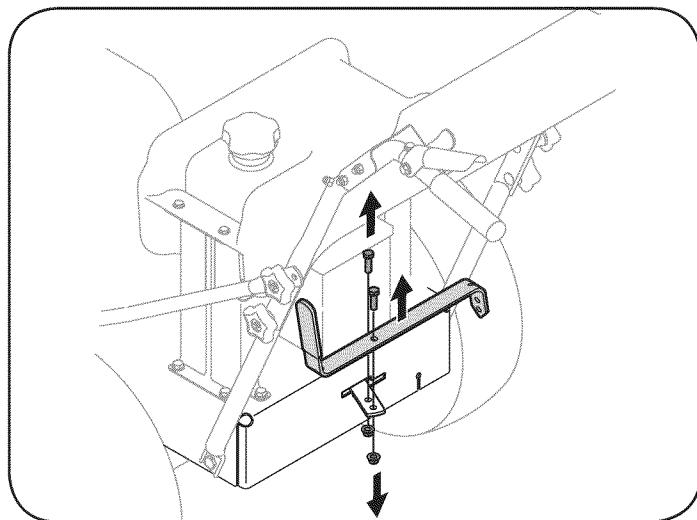

Figure 4
1. Remove the 5/16-18 screw and the lock nut that hold the shift lever to the shift lever plate, Figure 4.
2. Remove the remaining screw and nut from the lower shift lever plate, Figure 4.